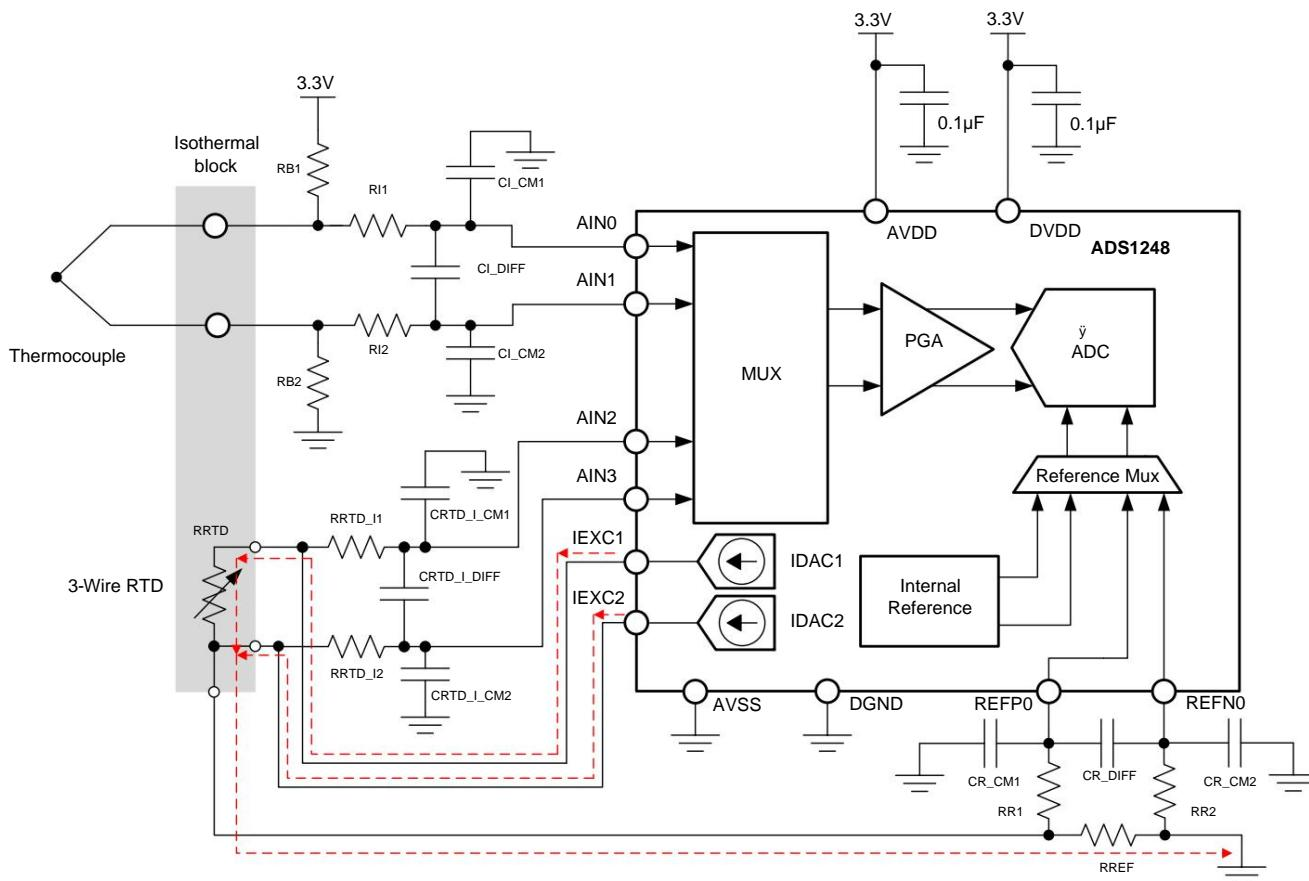

Figure 120. Thermocouple Measurement System Using the ADS1248
10.2.2 K-Type Thermocouple Measurement (-200°C to $+1250^{\circ}\text{C}$) with Cold-Junction Compensation Figure 120 shows the basic connections of a thermocouple measurement system based on the ADS1248. This circuit uses a cold-junction compensation measurement based on the *Ratiometric 3-Wire RTD Measurement System* topology shown in the previous application example. Using the IEXC1 and IEXC2 pins allow for routing of the IDAC currents without using any other analog pins. Along with the thermocouple and cold-junction measurements, four other analog inputs (AIN4 to AIN7 not shown in the schematic) are available for alternate measurements or use as GPIO pins.